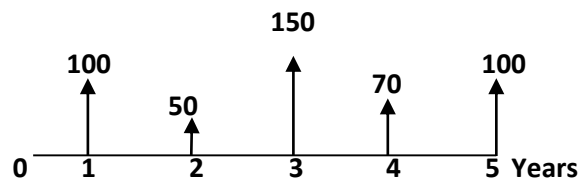

Fig11: Irregular series cash flow
5. **Irregular/Uneven Series:** A series of cash flow may be irregular. It doesn't exhibit an overall regular pattern. (Figure: 11)